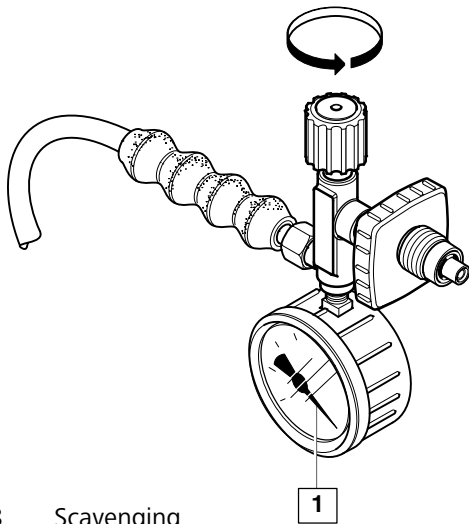

Fig. 8 Scavenging
5. Open filling valve (Fig. 8), wait until air escapes and flush the compressor unit 1 to 2 minutes, i.e. let the air escape into the surroundings.